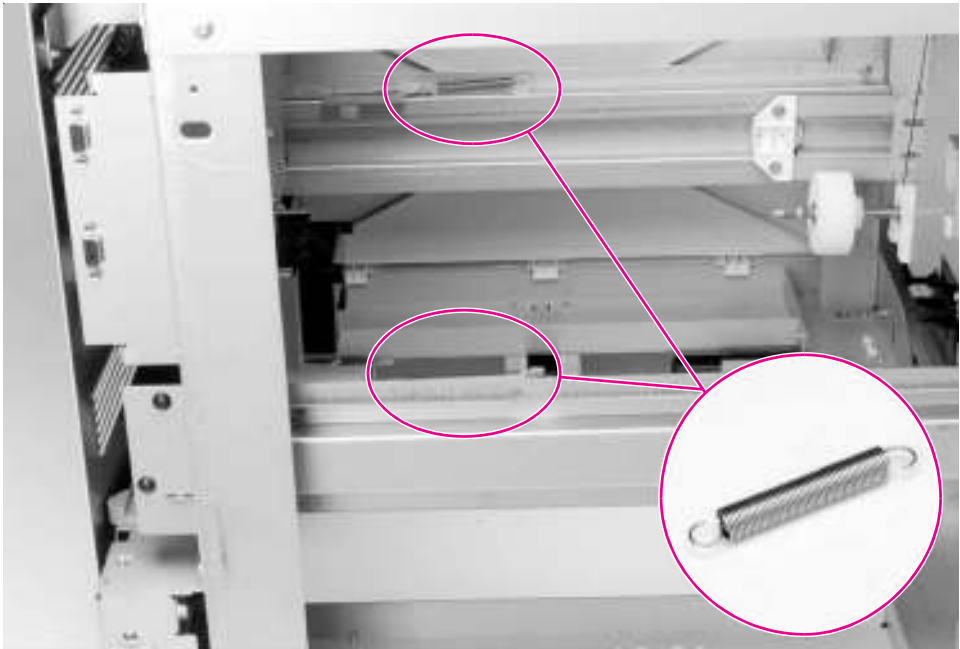

Figure 6-77 2000-sheet Input Tray Tension Springs
- 3 Inside the tray cavity, locate and remove the 2 springs on the tray runners: 1 spring on left runner (left side of the chassis) and 1 spring on the right runner (right side of the chassis) as shown in Figure 6-77.